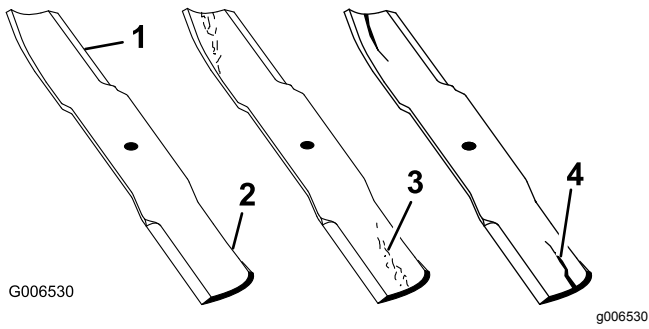

Figure 45
1. Inspect the cutting edges (Figure 45).
4. If you notice any cracks, wear, or a slot forming in this area, immediately install a new blade (Figure 45).